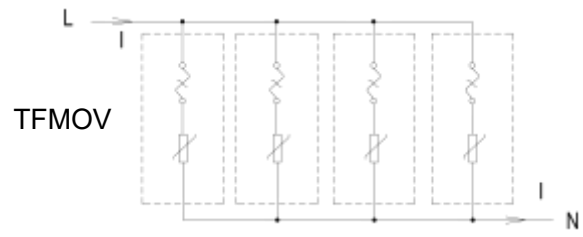

Figure .2
4. Design the layout like Figure.2. to make sure the surge capacity is divided averagely.